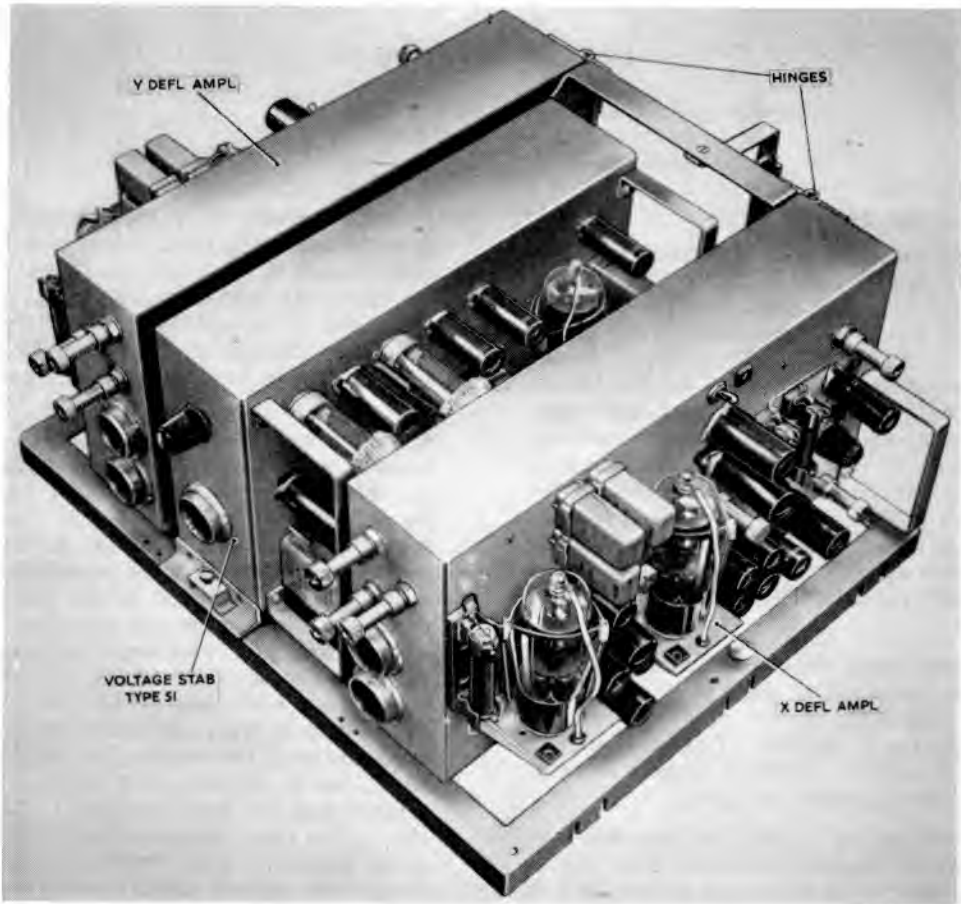
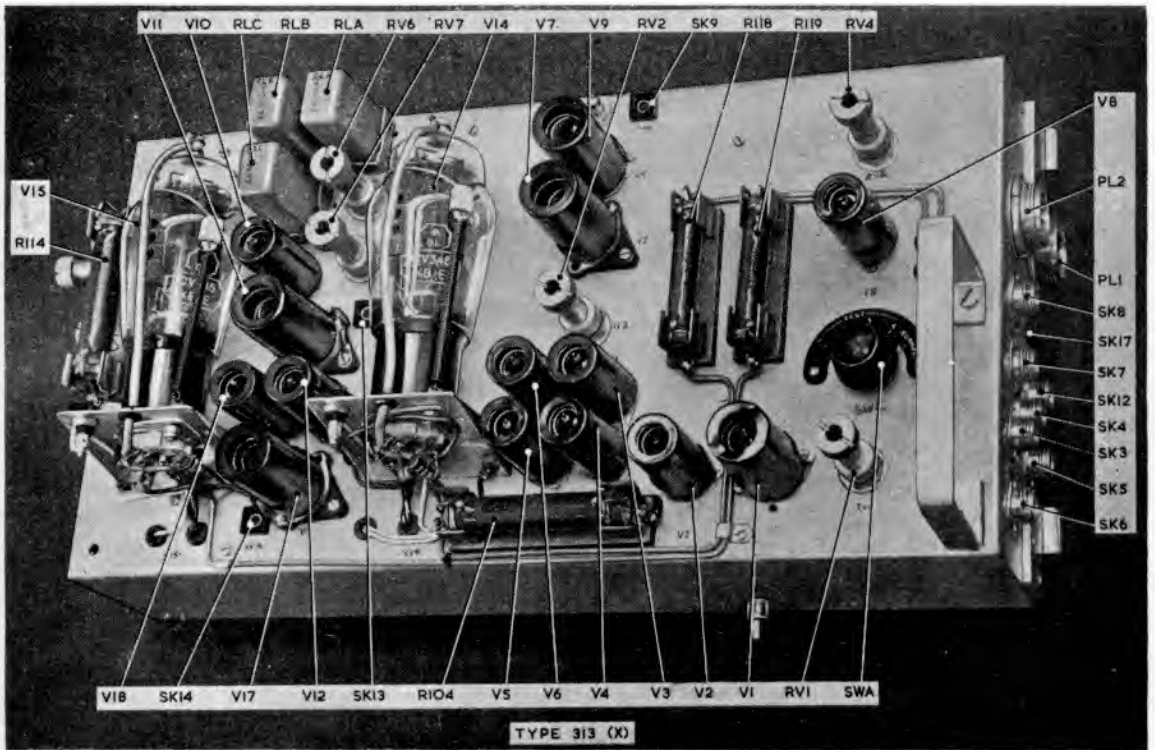
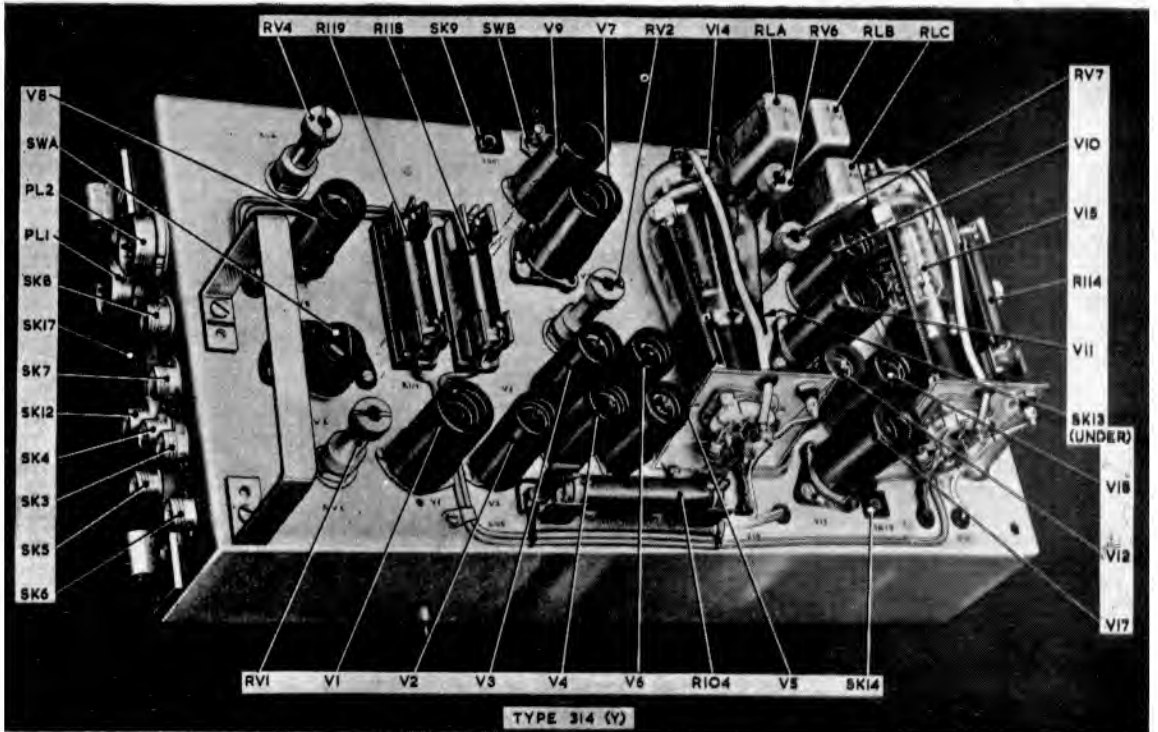

Fig. 2. Deflection amplifier mounting tray
Fig. 3. X amplifier (Type 313)
Fig. 4. Y amplifier (Type 314)
2. Fig. 1 shows where the deflection amplifiers are located in the lower half of the console, and fig. 2 shows them assembled on the mounting tray. A general view of the X amplifier (Type 313) appears in fig. 3; the Y amplifier, which in layout is a mirror image of the other, is shown in fig. 4.